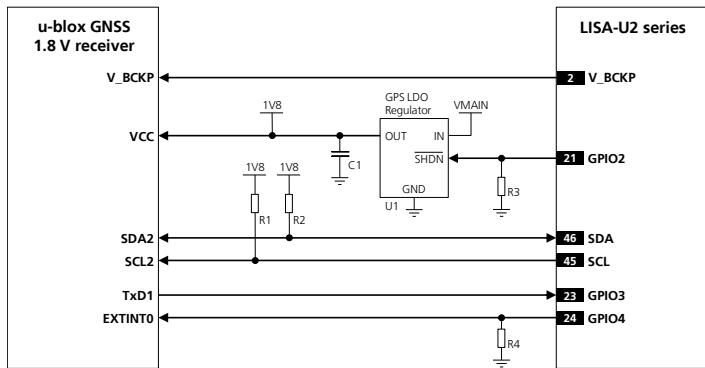

Figure 47: DDC Application circuit for u-blox 1.8 V GNSS receiver
- ☞ Connect the DDC (I2C) pull-ups to the **V\_INT** 1.8 V supply source, or another 1.8 V supply source enabled after **V\_INT** (e.g., as the GNSS 1.8 V supply present in Figure 47 application circuit), as any external signal connected to the DDC (I2C) interface must not be set high when the module is in power-down mode, when the external reset is forced low and during the module power-on sequence (at least until the switch on of the **V\_INT** supply of DDC pins), to avoid latch-up of circuits and let a proper boot of the module. See Figure 18 for power-on sequence description and timings.
Figure 47 shows an application circuit for connecting a LISA-U2 cellular module to a u-blox 1.8 V GNSS receiver.